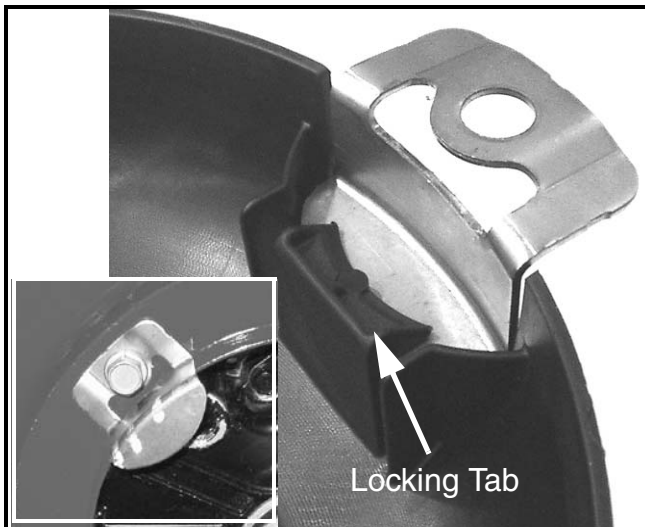

FIGURE 4
8. Install the metal clip with the engine screw removed in Step 7. Torque to 200 - 350 in. lbs. See Figure 4 Inset.
10. Rotate the back end of the baffle up towards the clip and using a wide flat blade screwdriver, press the locking tab, see Figure 4, in towards the crankshaft while pushing the baffle against the deck. Ensure the locking tab fully grips the clip by pulling on the baffle.